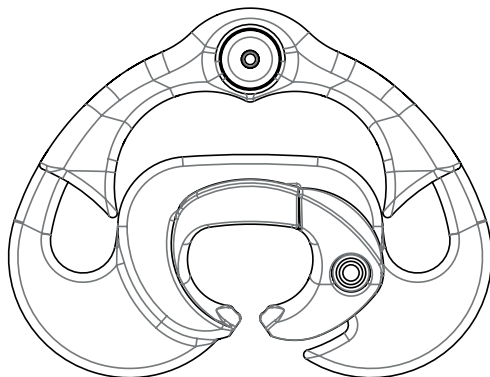

Fig. 1
Installation of EN 362 gate connector (fig. 1) of lanyard on traveller.
- a. Open the connector by acting on the lock (fig. 1, item 2) and flip the safety gate (fig. 1, item 3).
- b. Fasten the connector to one of the connection hole (fig. 1, item 9) of the travsmart traveller located at the ends of the frame (fig. 1, item 8).